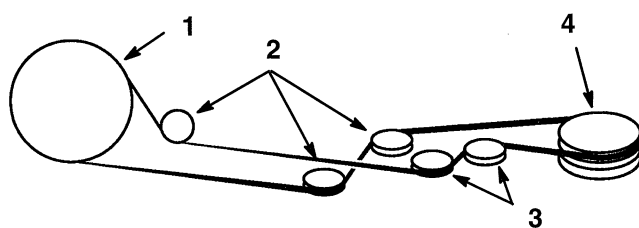

Figure 18
11. Route belt around upper pulley groove of electric clutch and idler pulleys (Fig. 18).
12. Hold the belt in the tiller drive pulley groove and rotate the pulley to install belt (Fig. 18).
13. Check that belt is properly routed around all pulleys and belt guides (Fig. 18).